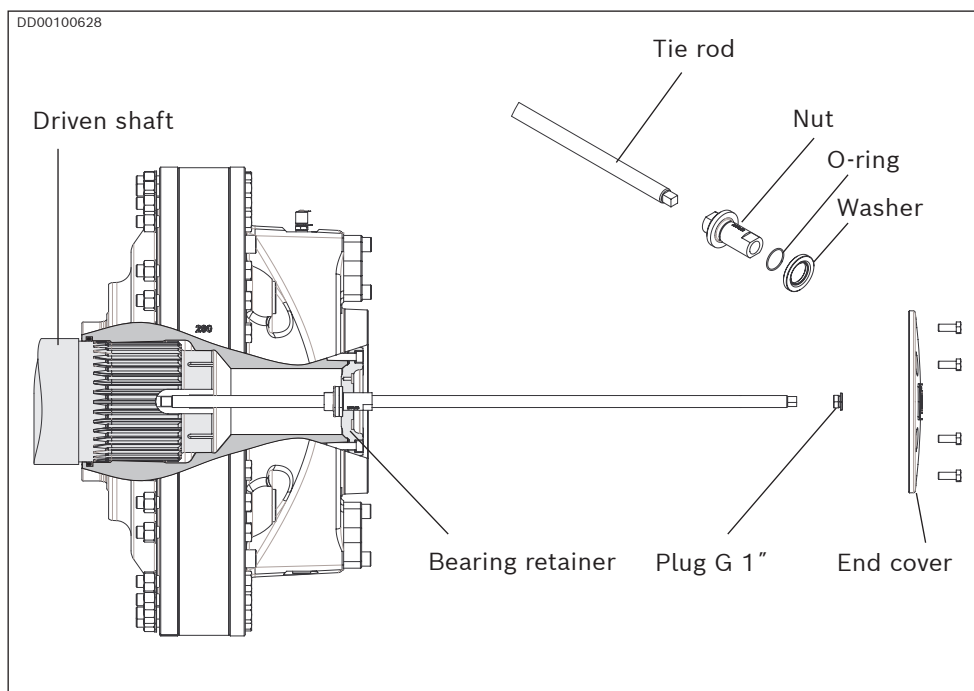

Fig. 51: Assembly tool for removing the CB spline motor
7. Install the assembly tool with the nut according to Fig. 51. Screw it into the driven shaft by using a wrench at the key grip at the end of the assembly tool.
5. Install the assembly tool with the nut according to *Fig. 51*. Screw it into the driven shaft by using a wrench at the key grip at the end of the assembly tool.